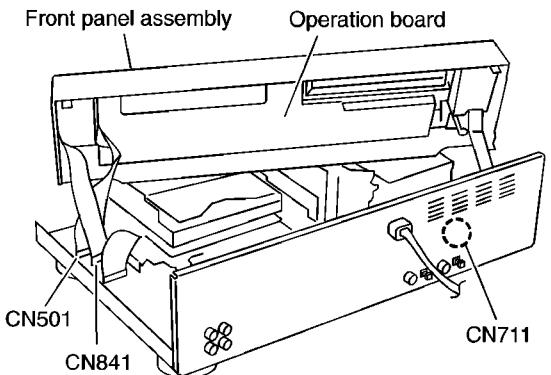

Fig.1
■ Check the operation board (see Fig.1)
2. Check the operation board as shown Fig.1.